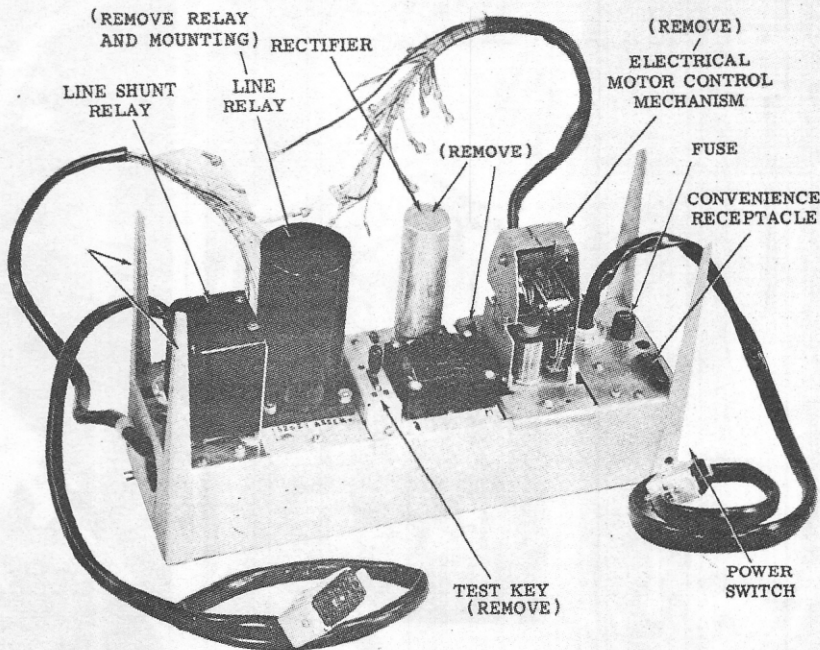

Fig. 28-6
- b) Remove the four assemblies indicated (Fig. 28-6).